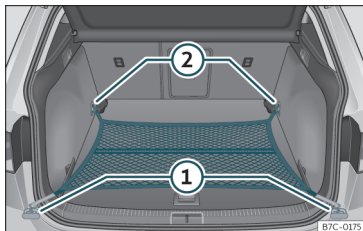

Fig. 117 In the luggage compartment: net bag hooked up at floor level.
- Secure the net hooks to the fastening rings (1) and (2)»» **Fig. 117** »» ⚠. The bag zip should be facing upwards.